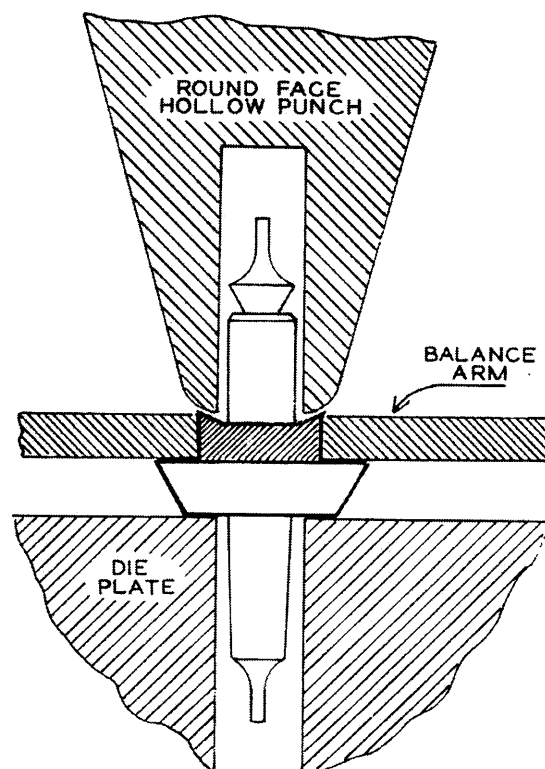

Fig. 15-15
3. Select a round face hollow punch and a flat face hollow punch which will slip over the collet shoulder freely. The round face hollow punch is used to spread the rivet and the flat face hollow punch will smooth and finish the previous operation. Figure 15-15 illustrates the staff in position in the die plate, the arm in position on the balance shoulder, and the round face hollow punch in position for riveting.